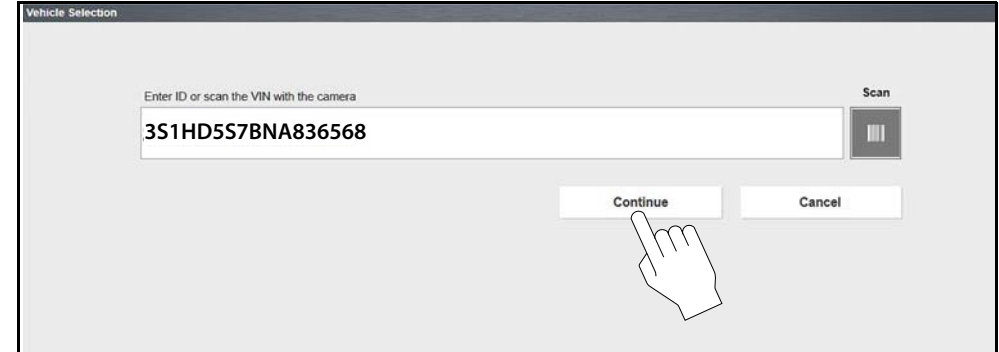

Figure 5-5
5. Select **Continue** to exit and continue with the vehicle ID process (Figure 5-5).